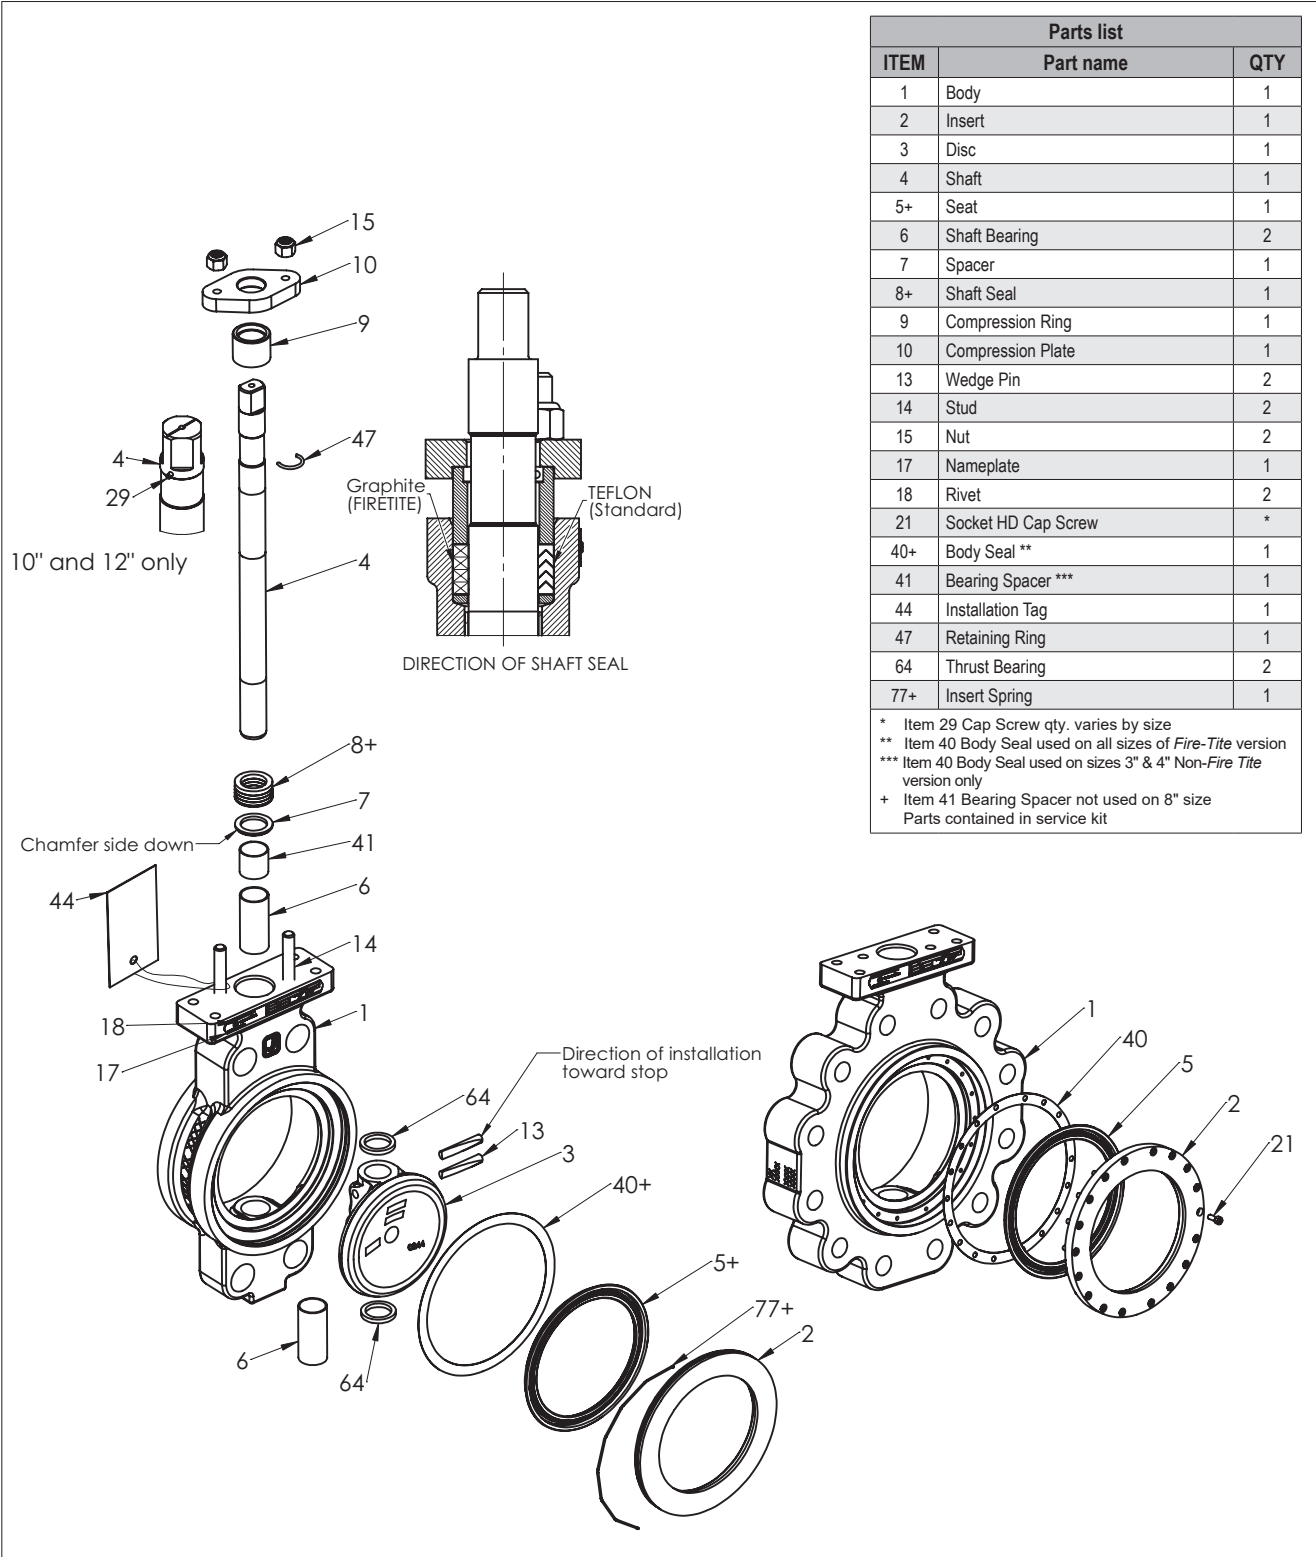

Figure 13.
4. Remove the disc pin welds by grinding or machining off the welds. Drive out the pins opposite the installation direction shown in (Figure 13).
5. Remove the shaft (4). **NOTE:** When removing the shaft and freeing the disc, be careful not to scratch the sealing surface of the disc.
6. Remove the disc (3) and upper and lower thrust bearings (64).
7. Remove the top bearing (6) either through the top of the valve or the waterway.
8. Remove the bottom bearing (6).
2. Check the shaft (4) and disc (3) for damage. Pay particular attention to the sealing areas.
3. Check all sealing and gasket surfaces of the body (1) and insert (2).
- c. From **Figure 13**, the ballooned part number, part name and quantity required.
Numbers in ( ) refer to items shown in (Figure 13).
5. Install the bearings (6) into the body bores.
7. Slide the shaft through the top bearing and engage the top thrust bearing (64). With the two pin holes toward the bonnet, place the disc in the waterway and slide the shaft through the shaft bore in the disc. Place the lower thrust bearing (64) below the disc, slide the shaft through and into the lower shaft bearing (6). Use caution to prevent damage to the shaft bearings and disc sealing surface.
8. Insert the disc pins (13), as shown in (Figure 13), and drive them into place. The pins must be driven so that both pins are the same depth within 1/16" (1.56 mm). When they are correctly installed the drive shaft will be as shown in (Figures 2 and 3). Weld both ends of the pins, small end first, grounding the shaft only (body on blocks of wood). After the disc cools, clean the welds with a wire brush. **CAUTION:** Use care to keep contamination out of the valve.
9. Install the upper bearing spacer (41) when applicable, the spacer (7) with chamfered side toward disc, the shaft seal (8), the compression ring (9) and the retainer ring (47). If the shaft seal is of the PTFE V-ring type, be certain that it is installed in the orientation shown in (Figure 13).
- c. From Figure 13, the ballooned part number, part name and quantity required.